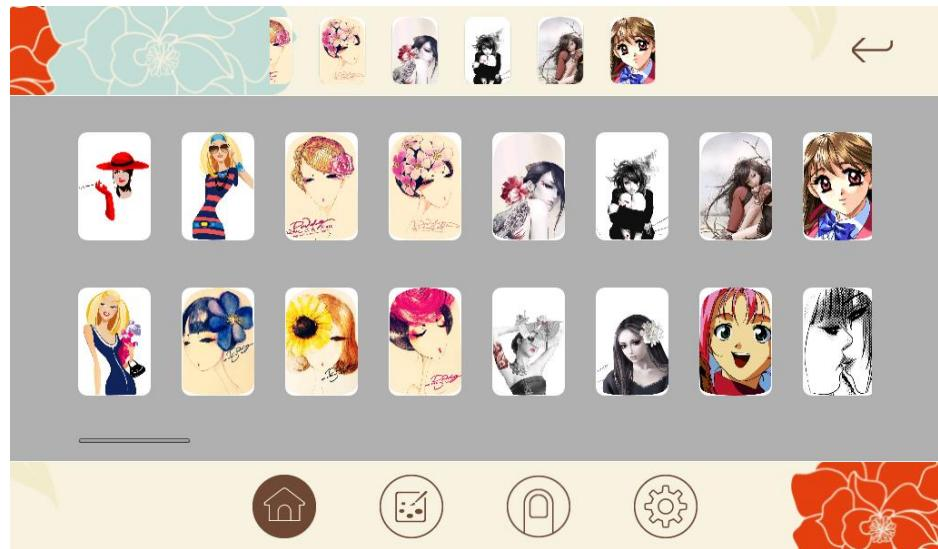

Figure 3
(3) Enter the style gallery and directly choose the painting patterns, displaying in the preselected area. Long pressing can cancel the preselected pattern, as shown in Figure 3.